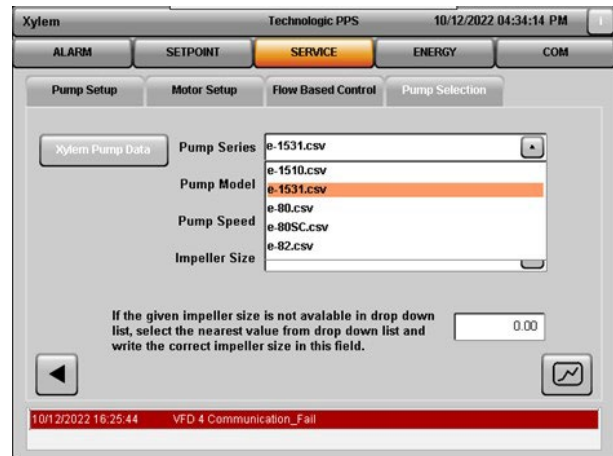

Figure 5.4.15-Pump Selection\_Pump Series
**[Custom Pump Data]** button will display a list of the available Pump Series under custom folder in file system. Custom pump data is used when pump curve database is not available under **[Xylem Pump Data]**. Select the Pump Series from drop down list. (Pump Series detail is available on Pump Name Plate). **See Figure 5.4.15**.